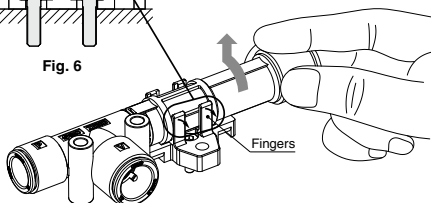

Fig. 5
- 4) To remove the body from the bracket, unclip the fingers (2 pcs.) on one side outside and pull the ejector up while rotating the adapter. If the ejector is pulled up without unclipping the fingers, it may damage the bracket (Fig.5, 6). If an increased holding force is required, please contact your SMC sales representative.